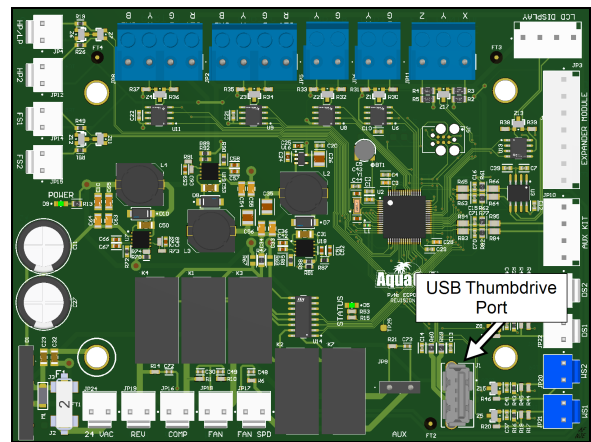

Figure 2 - USB Thumb Drive Port
3. Place USB thumb drive in the heat pump's USB thumb drive port on the control board. See Figure 2.